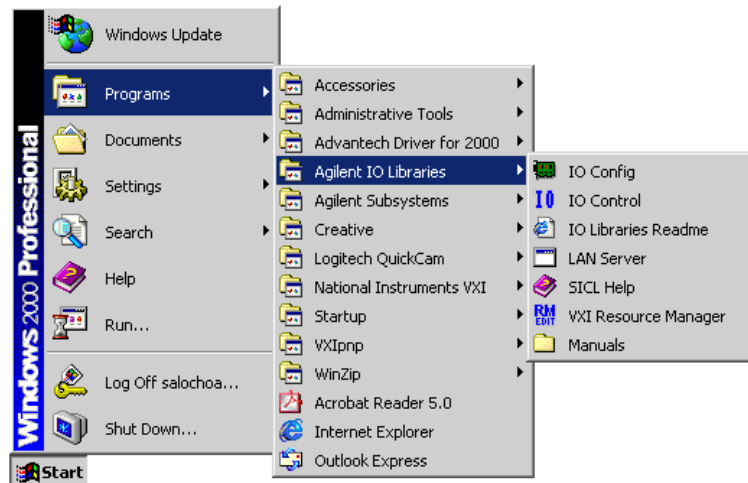

Figure 1-6 Navigate to I/O Config
- 2 Referring to Figure 1-6, navigate to the **I/O Config**.